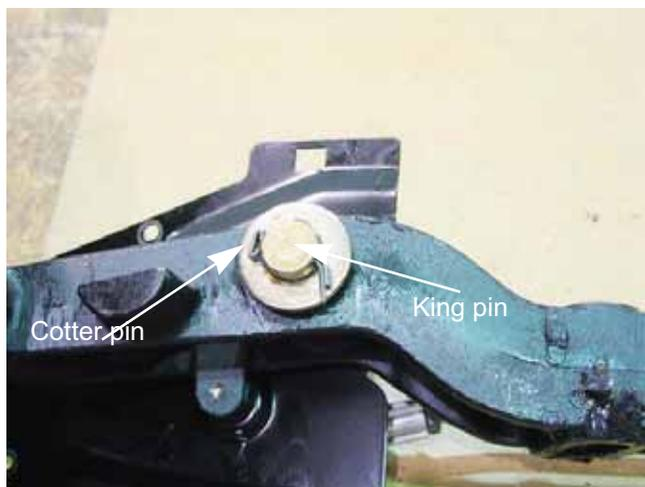

Figure 6B.93
14. Start re-assembling the pivot bar by inserting the steering king pins into the pivot bar. Secure them with new cotter pins. See Figure 6B.93.